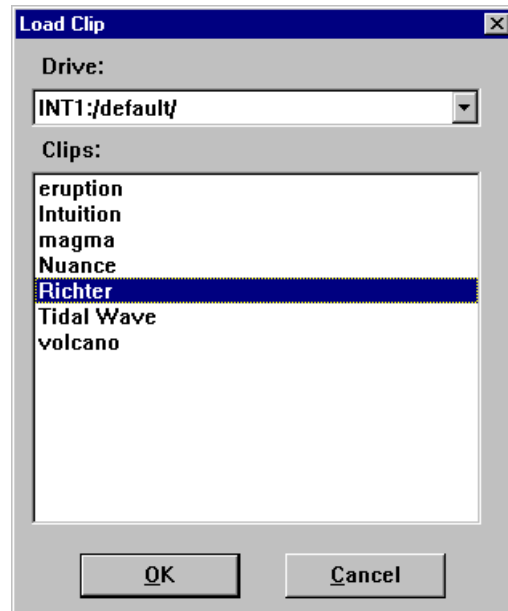

Figure 89. Load Clip dialog box
5. Select the clip to load—*Richter* in this example (see Figure 89).